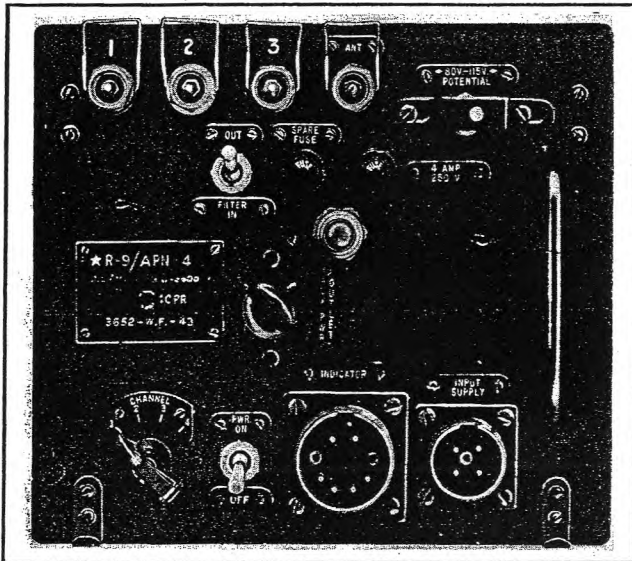

Figure 1-3. Radio Receiver *R-9/APN-4—Front Panel (Late)
a. RADIO RECEIVER ★R-9/APN-4. (See figure 1-3.)